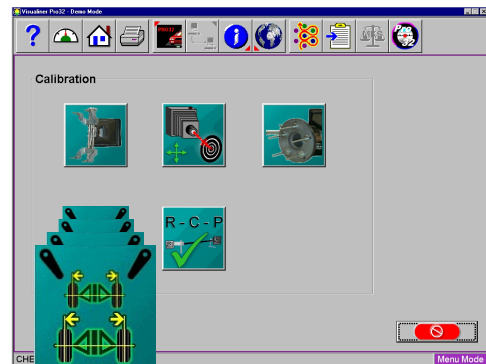

Figure 28
1. From the calibration icon single click on the “Camera Pod Rotation” icon. (Figure 28)